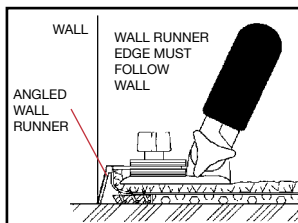

FIG. 12
2. Place the trimmer into the cut. Keep the bottom of the trimmer flat against the carpet, and the bottom edge of the wall runner at the junction of the floor and the wall. (See fig. 12.)